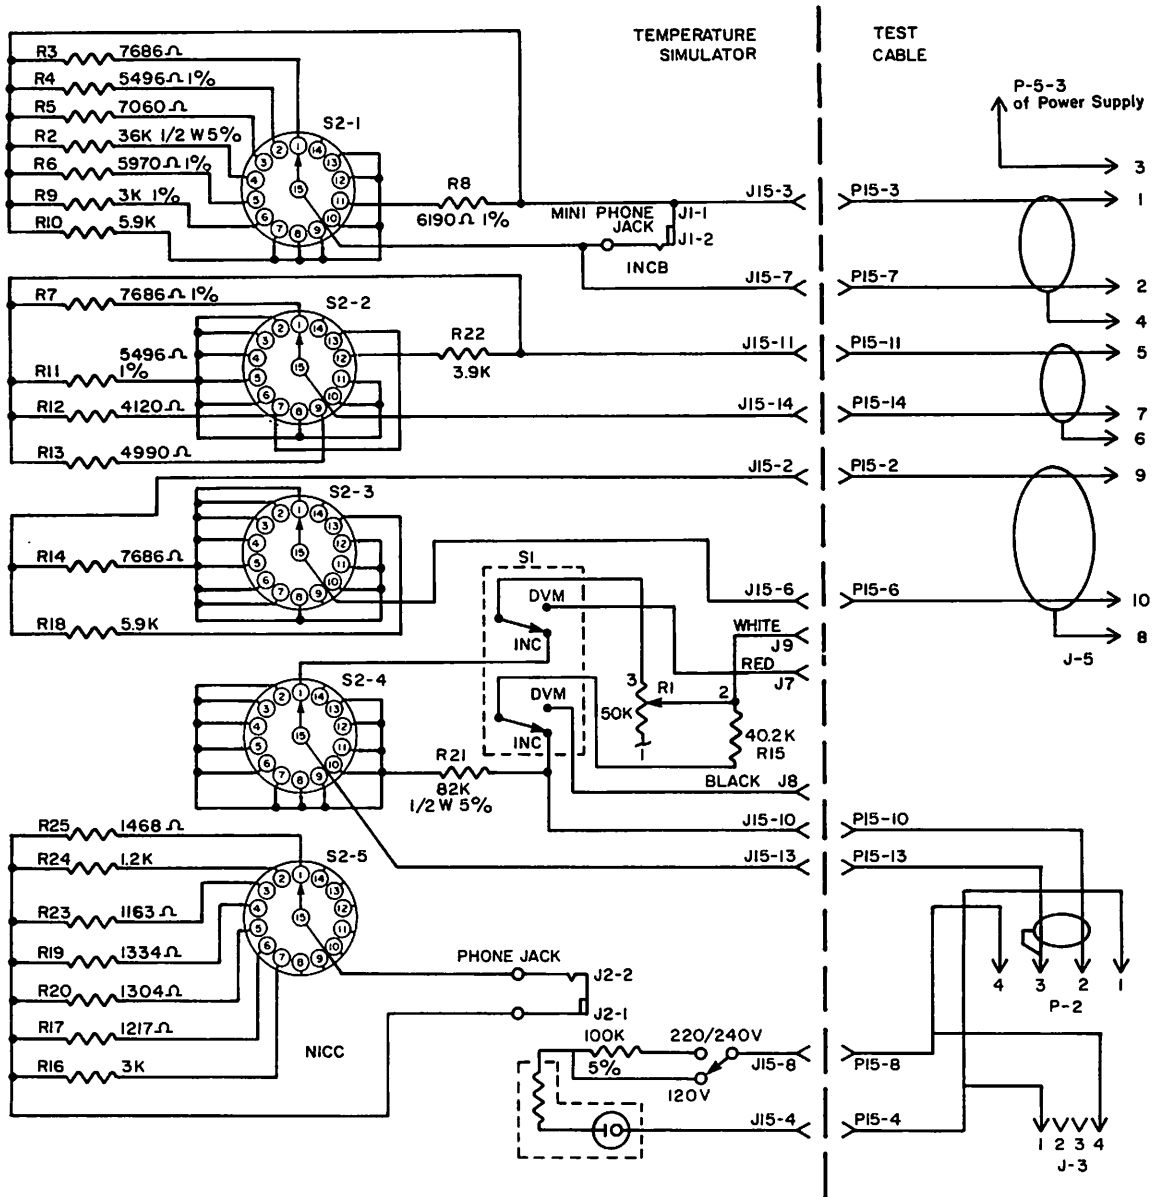

Figure 4.
5.5 SCHEMATIC AND ILLUSTRATED PARTS (FIGURES 4, 5, AND 6)